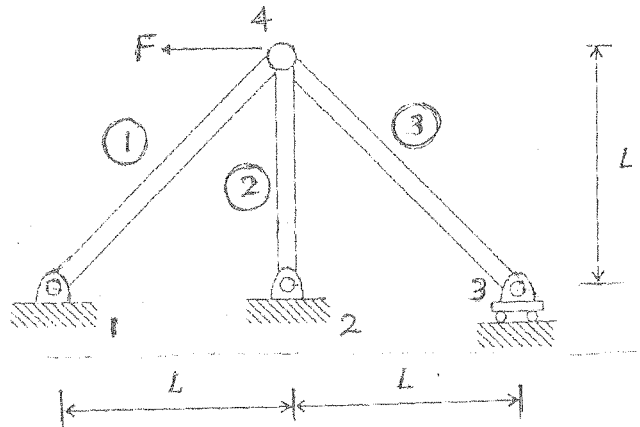

Figure Q3
b) The truss shown in Figure Q3 is subjected to a horizontal force F at node 4. Let all the members have the same stiffness EA . Find the displacement (in terms of F , E , A and L) at node 4.